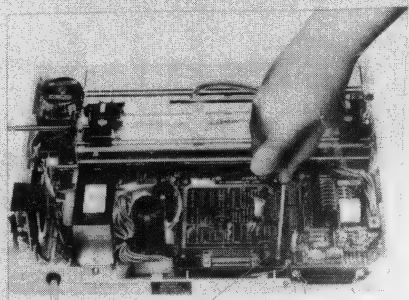

Fig. 2 Installation of I/F Board
**STEP 3:** Plug the I/F board connector into the connector on the Serial Interface Unit of the Printer as shown in Fig. 2.